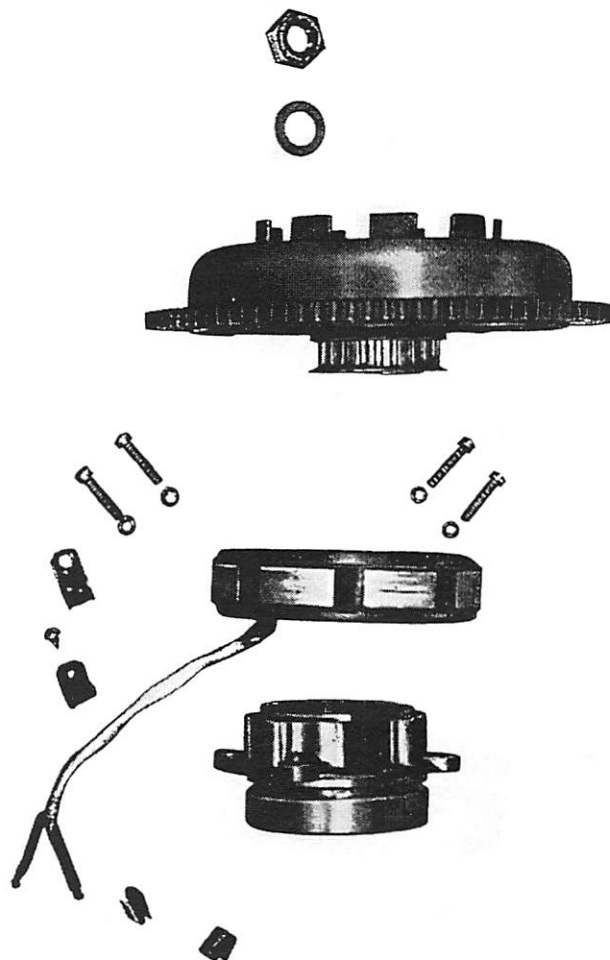

Figure 16. Alternator Stator
D. Alternator Stator, 4 Cylinder Motors (Figure 16)
E. Alternator (Flywheel), 4 Cylinder Motors (Figure 16)